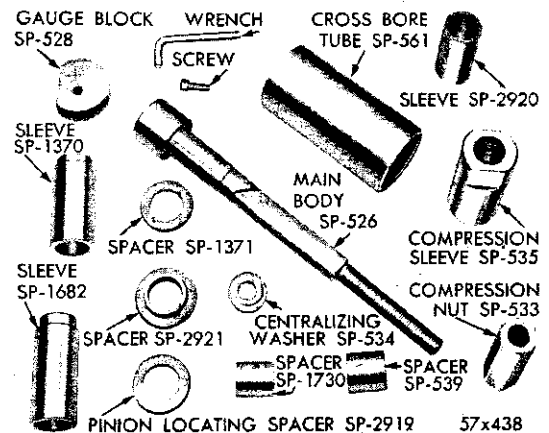

Fig. 15—Tool Set C-758
(1) Place the bearing cups squarely in position. Assemble Tool C-758 (Fig. 15) by placing spacer SP-2919 (on Chrysler Newport TC-1) followed by the rear pinion bearing cone over the main screw of the tool and inserting it into the carrier from the gear side (Fig. 16).